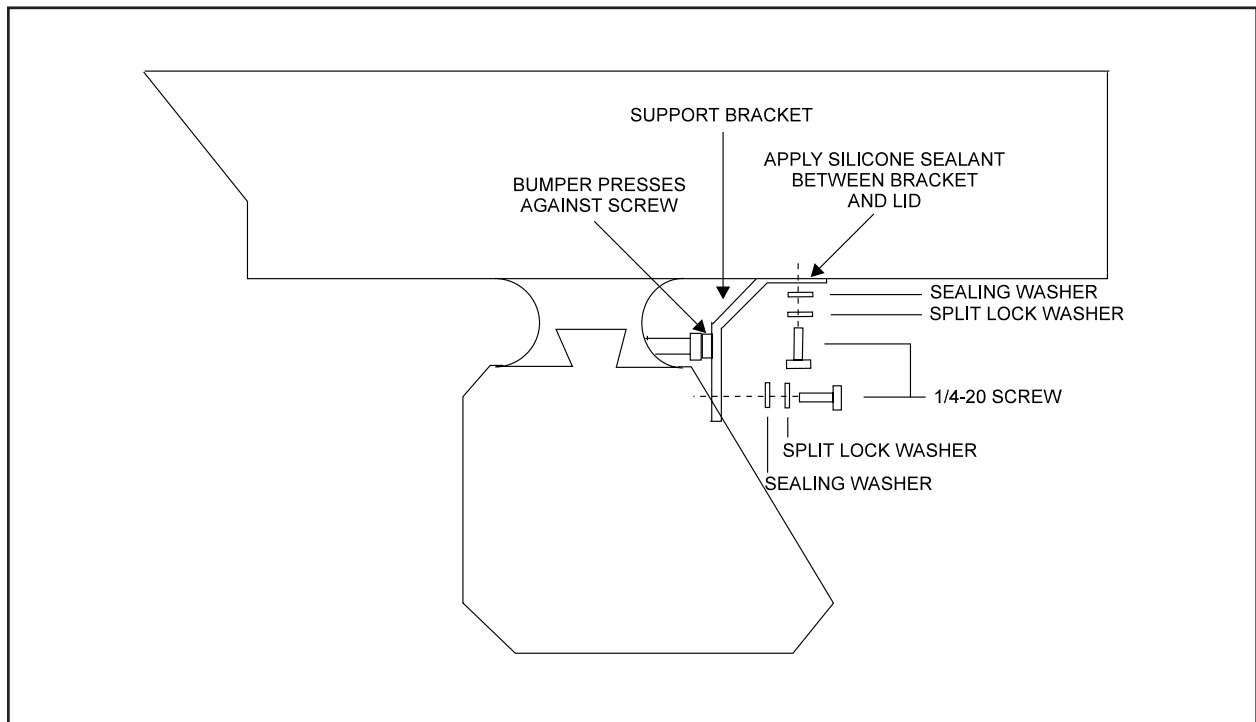

Figure 1. Support Bracket Installation
- e. Install the support bracket as shown in Figure 1. Apply silicone sealant (such as Bostik #9732 or equivalent) between the bottom of the bracket and the top of the enclosure. Fasten the bracket to the top of the enclosure and the tilt shaft of the pan/tilt unit with the screws, split lock washers, and sealing washers that are supplied.